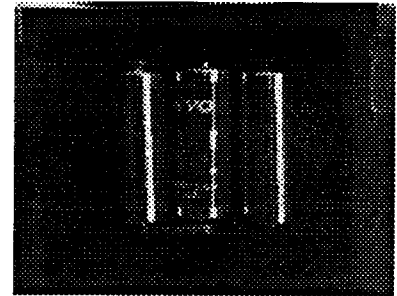

Figure 4.1 - Battery positioning
- 4.3.2 To replace the batteries, turn the unit over on a soft surface and remove the battery compartment cover (see Figure 4.1). A small tool, such as a screwdriver, may be necessary in unlatching the tab. Be careful not to break this tab. Replace the batteries with three high quality AA size "heavy duty" or alkaline batteries. A capacitor will keep the memory alive for about 30 seconds while changing the batteries, thus do not remove the old ones until the new ones are ready for installation. Alternatively, it is permissible to the power cable plugged in and the power on while changing the batteries, in which case memory will be retained as long as power is on. Be sure to insert the new batteries in the directions indicated by markings in the bottom of the battery compartment. Incorrect insertion won't damage anything but the memory won't receive any power from the batteries.